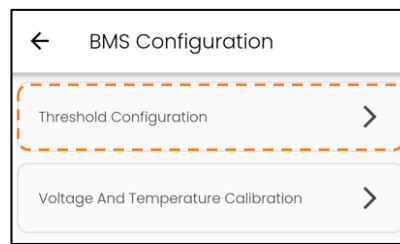

Figure 8 BMS Configuration.
- This will open all threshold-related settings (refer to *Figure 8*).